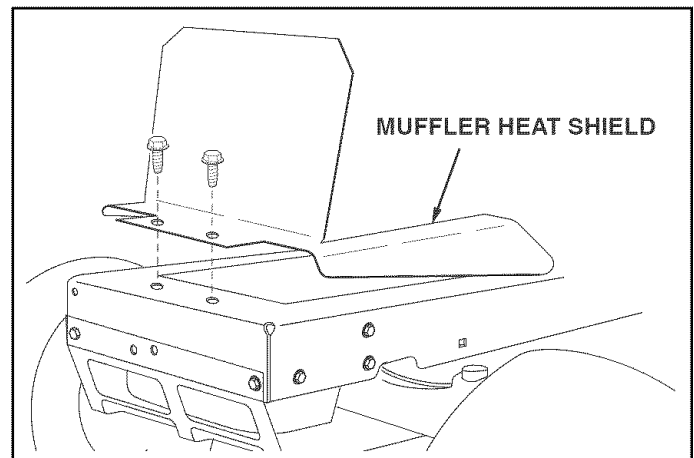

FIGURE 1
STEP 1: (SEE FIGURE 1)
- If your tractor has a heat shield shaped like the one in figure 1, temporarily remove it.